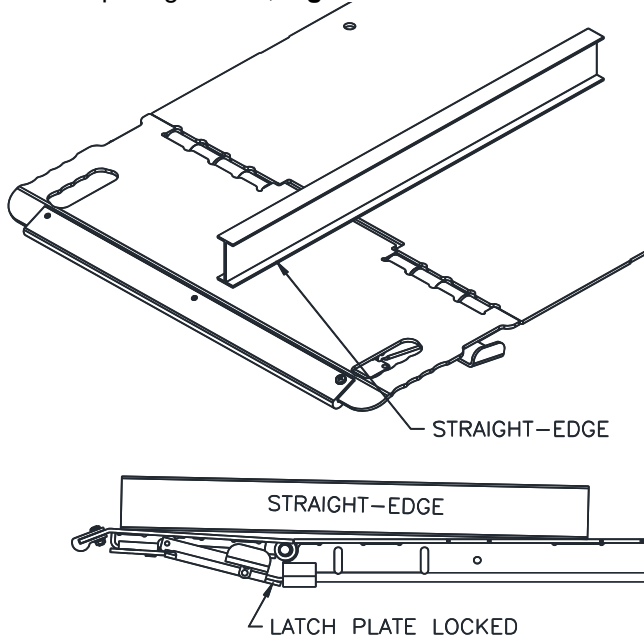

Fig. 12 LEVELING THE RAMPS WITH A STRAIGHT-EDGE
13. Raise each Ramp until the Latch Plate located beneath the Ramp locks into the base of the Platform. Raise the lift to full height so adjustments can be made to the bottom of the Ramps. Place a straight-edge (2 ft. minimum) fore-&-aft across one of the Ramp Hinge areas, **Fig. 12**.
14. Slightly loosen the four (4) Flat-Head Screws securing the Movable Saw Tooth Adjustment Bar, **Fig. 13**. Tap on either end of the Adjustment Bar with a hammer to change the pitch of the Ramp. Once the Ramp is adjusted flat with the Platform as indicated by the Straight-Edge, **Fig. 12**, retighten the Flat Head Screws to lock the Adjustment bar into position.